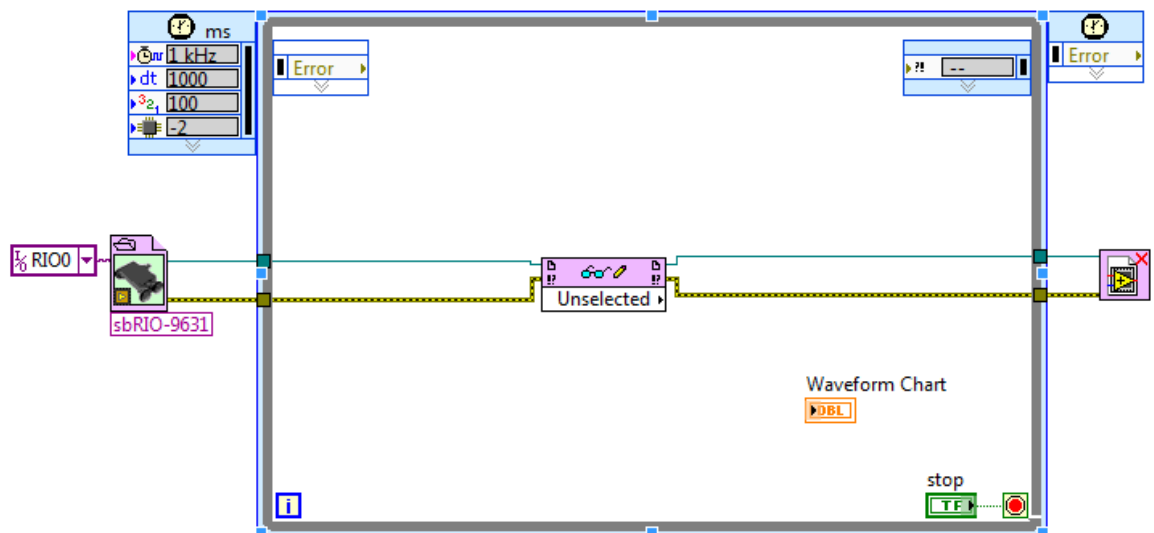

Figure 6. Wiring the elements of the program together [1]
16. From the same palette, place a “Close FPGA VI Reference” on the outside of the loop to the right side. Wire the program as shown below in Figure 6: